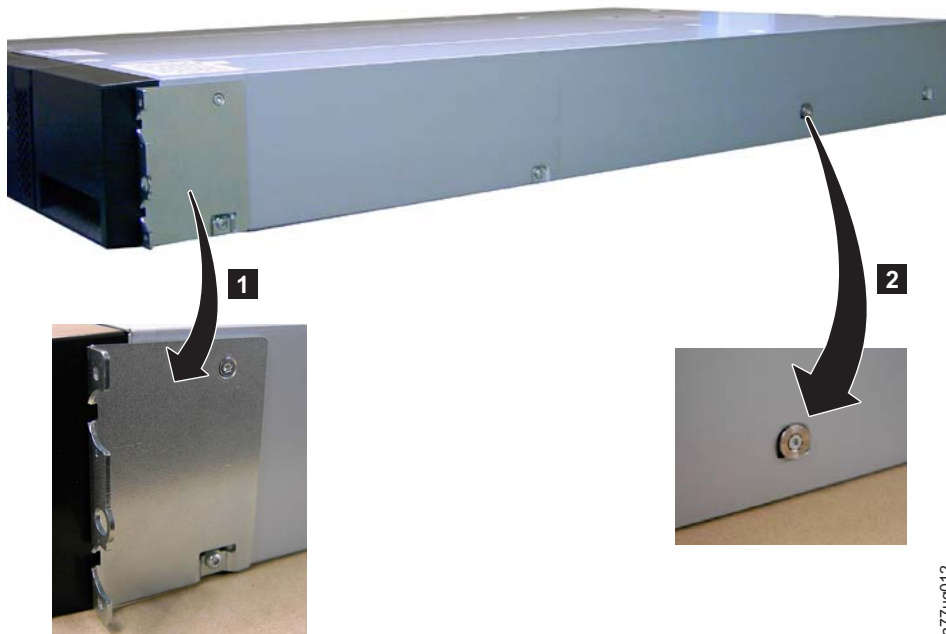

Figure 4-11. 2U library rack anchors and mounting brackets
5. Install the library rack anchors (**2**) as shown in Figure 4-11 on each side of your library using the longer counter-sunk screws included in the rack kit.